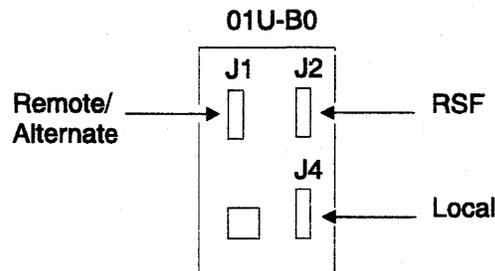

Figure 2-3. Console Output
- A console wrap plug should be installed on the 3745 console connector, (see Figure 2-3), or at the far end of the cable which should be disconnected from the relevant console/modem.
- Install a console wrap plug on the 3745 console connector (see Figure 2-3). Use wrap plug PN 6398697. Refer to Step 6 on page 3-23 to repeat the test. Return here.
– Install a console wrap plug on the 3745 console connector (see Figure 2-3 on page 2-9). Use wrap plug PN 6398697. Refer to Step 6 on page 3-23 to repeat the test. Return here.
- Install a console wrap plug on the 3745 console connector (see Figure 2-3 on page 2-9). Use wrap plug PN 6398697. Refer to step 6 on page 3-23 to repeat the test. Return here.